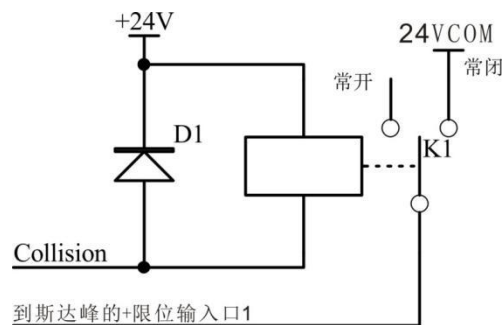

Figure 4-3: connection on the SF for the stop when collision
- 2、 This CNC controller is without collision input port, if you need the stop function when collision, please reference SF instruction Fig 4-3 :